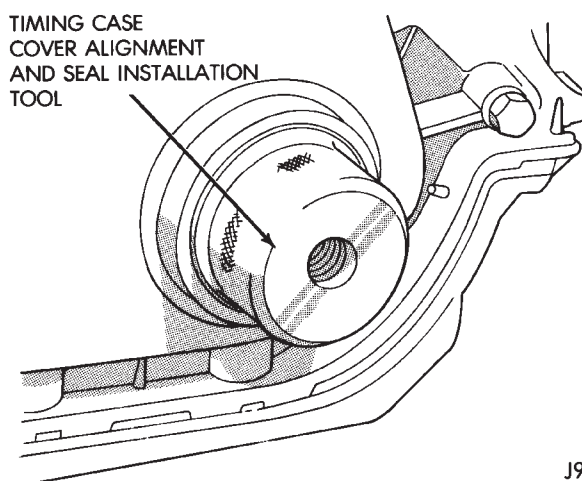

Fig. 48 Timing Case Cover Alignment and Seal Installation Tool 6139
(11) Position the timing case cover on the oil pan gasket and the cylinder block.
(12) Place Timing Case Cover Alignment and Seal Installation Tool 6139 in the crankshaft opening in the cover (Fig. 48).